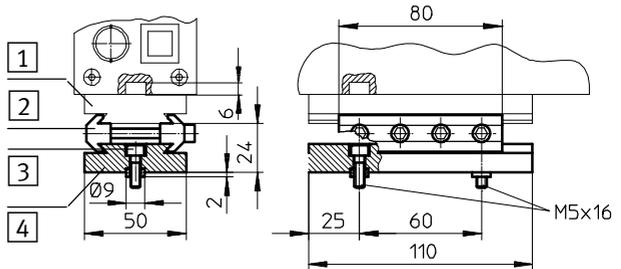

Fig. 2/2: Mounting the Checkbox with connecting kit HMSV-12
- The Checkbox and transporting device are mounted securely to each other (Fig. 2/3)